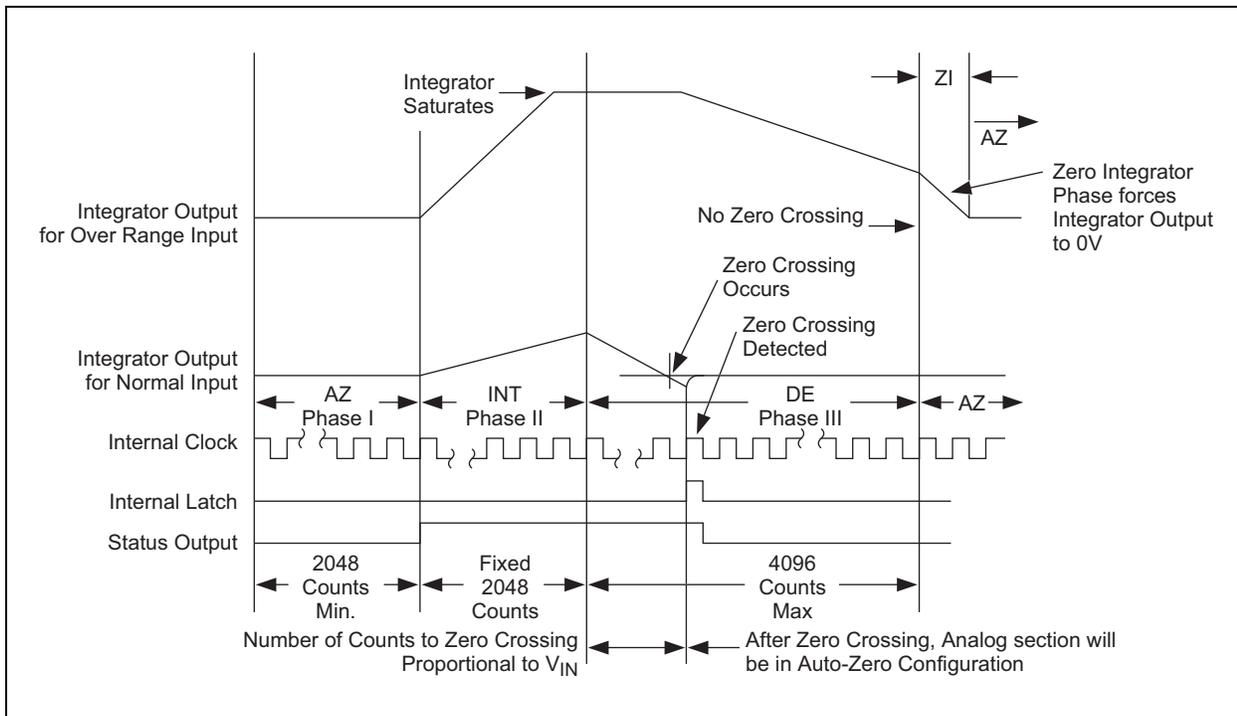

FIGURE 3-1: Conversion Timing (RUN/HOLD) Pin High
The Typical Application diagram on page 3 shows a block diagram of the analog section of the TC7109A. The circuit will perform conversions at a rate determined by the clock frequency (8192 clock periods per cycle), when the RUN/HOLD input is left open or connected to V+. Each measurement cycle is divided into four phases, as shown in Figure 3-1. They are: (1) Auto-Zero (AZ), (2) Signal Integrate (INT), (3) Reference De-integrate (DE), and (4) Zero Integrator (ZI).
During ZI, the reference capacitor is charged to the reference voltage. The signal inputs are disconnected from the buffer and integrator. The comparator output is connected to the buffer input, causing the integrator output to be driven rapidly to 0V (Figure 3-1). The ZI phase only occurs following an over range and lasts for a maximum of 1024 clock periods.
During a conversion cycle, the Status output goes high at the beginning of signal integrate and goes low one-half clock period after new data from the conversion has been stored in the output latches (see Figure 3-1). The signal may be used as a “data valid” flag to drive interrupts, or for monitoring the status of the converter. (Data will not change while status is low.)
With the RUN/HOLD input high, or open, the circuit operates normally as a dual slope ADC, as shown in Figure 3-1. Conversion cycles operate continuously with the output latches updated after zero crossing in the De-integrate mode. An internal pull-up resistor is provided to ensure a HIGH level with an open input.